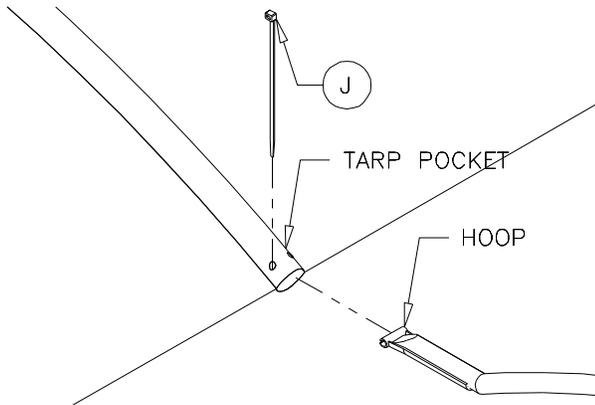
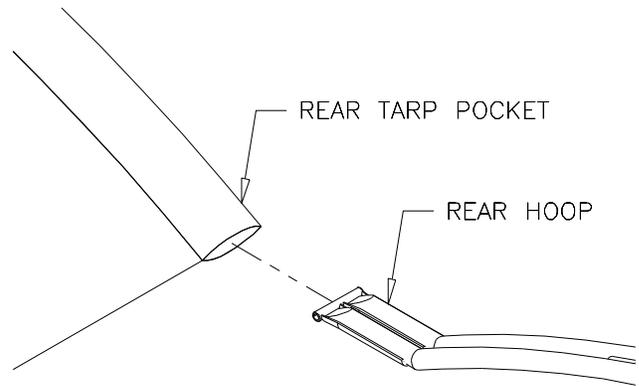
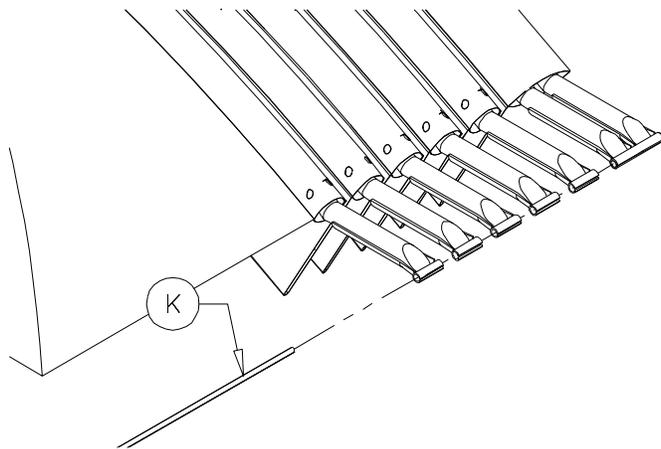
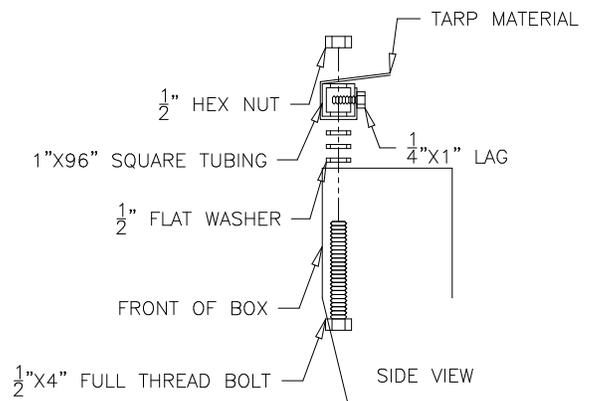

Figure 7
Figure 8
Figure 9
Figure 10
**Procedure:** Insert all hoops in tarp pockets (see Figure 7) making sure that they are between the vinyl, and not between the vinyl and mesh. The rear hoop is a double hoop (see Figure 8). If 18" rise hoops (high hoops) were ordered the first hoop is 12" rise (standard height) with rest at 18" rise. Insert a nylon tie (J) in both sides of each tarp pocket, but do not fasten the ties to the hoops until specified in Step 7. For ease of handling insert a 1/4" rod (K) through the hoop roll pins making sure that the hoops are not crossing each other (see Figure 9). The tarp material has to be wrapped around the 1" square tubing (see Figure 10) and attached to it with the 1/4"x1" lag screws provided.